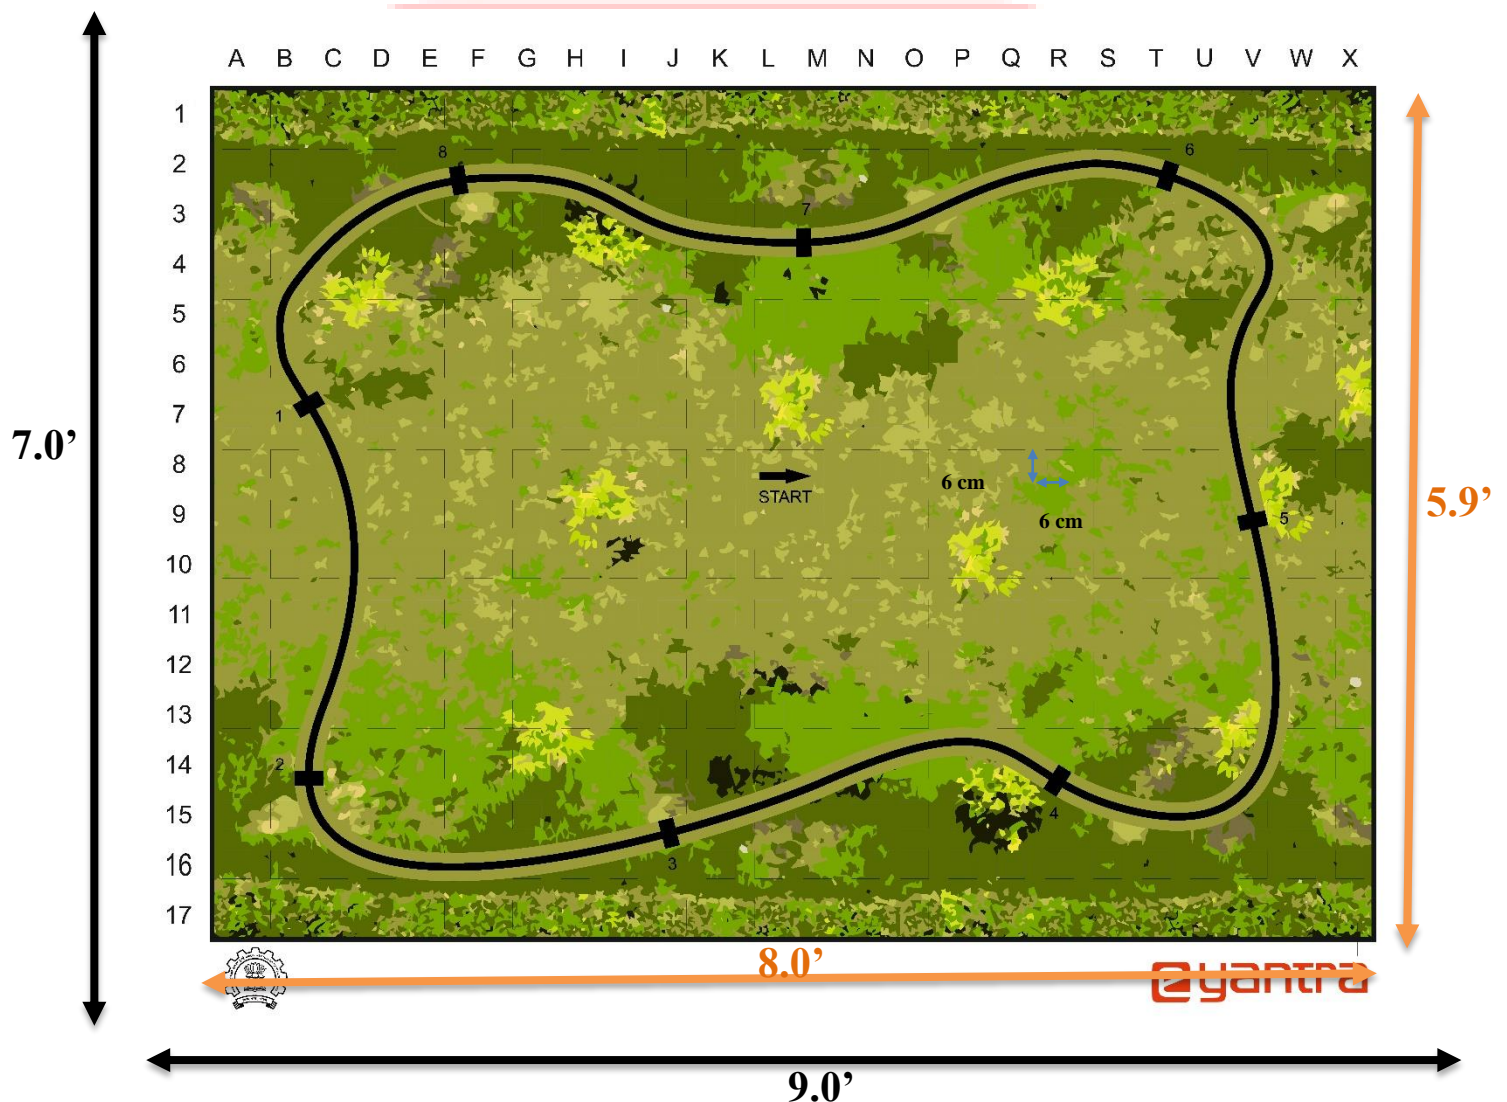

Figure 3: Arena with Dimensions
Flex design is shown in Figure 3. A Portable Document Format(.pdf) file containing the flex design is provided to the teams. Each team prints the flex design according to the directions given in the Readme file
Dimensions of arena are as shown in Figure 3:
- Outer dimension of arena is 7 x 9 feet (marked by red border in Figure 3).
- Inner dimension of arena is 5.9 x 8 feet (marked by black border in Figure 3).
- Dimension of each Cell is 6cm x 6 cm (marked by blue lines in Figure 3).